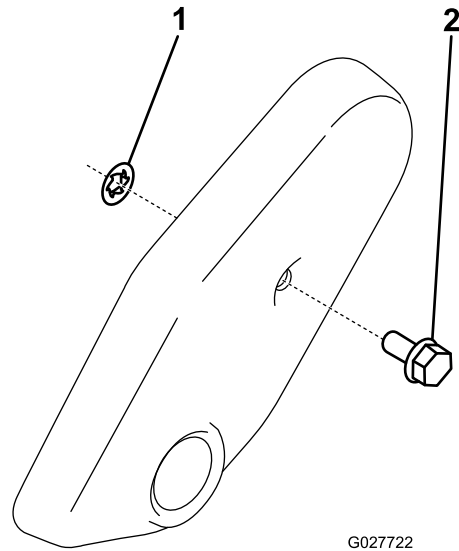

Figure 7
2. Slide the push nut onto the belt cover plug (Figure 7).